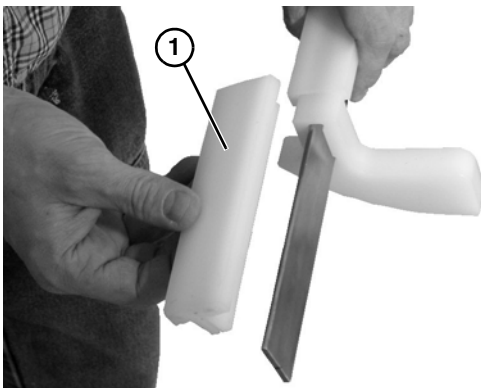

Figure 47
3. Remove and replace wear strips if worn (**Figure 47, item 1**).